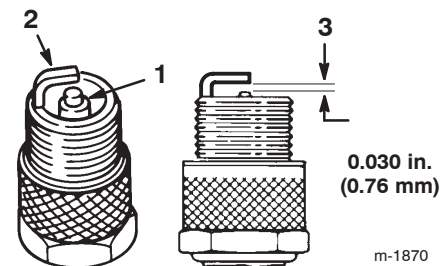

Figure 20
1. Look at the center of the spark plug (Fig. 20). If you see light brown or gray on the insulator, the engine is operating properly. A black coating on the insulator usually means the air cleaner is dirty.
2. Check the gap between the center and side electrodes (Fig. 20). Bend the side electrode (Fig. 20) if the gap is not correct.